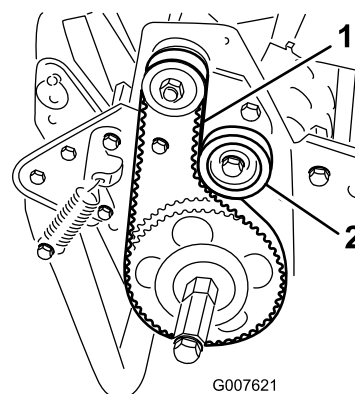

Figure 37
2. Check the tension by pressing the belt at mid span of the pulleys (Figure 37) with 18 to 22 N (4 to 5 lb) of force. The belt should deflect 6 mm (1/4 inch).
- A. Loosen the idler pulley mounting nut and pivot the idler pulley clockwise against the backside of the belt until the desired belt tension is attained (Figure 37).